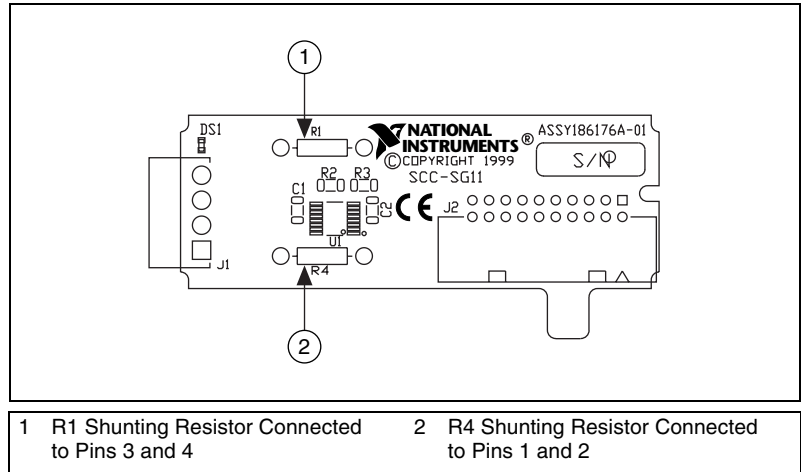

Figure 21. SCC-SG11 Parts Locator Diagram
6. Locate the shunting resistor and replace it. Refer to Figure 21 to locate the shunting resistor on the SCC-SG11.